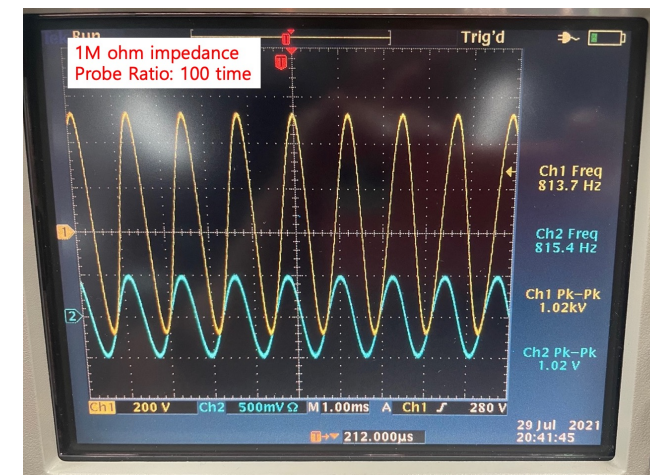

Figure 7 - AC Reference Voltage and Measurements
- Applied 1000V with 815.4 Hz AC signal to CPM and Scope instrument setup and verified accurate readings in Figure 7.